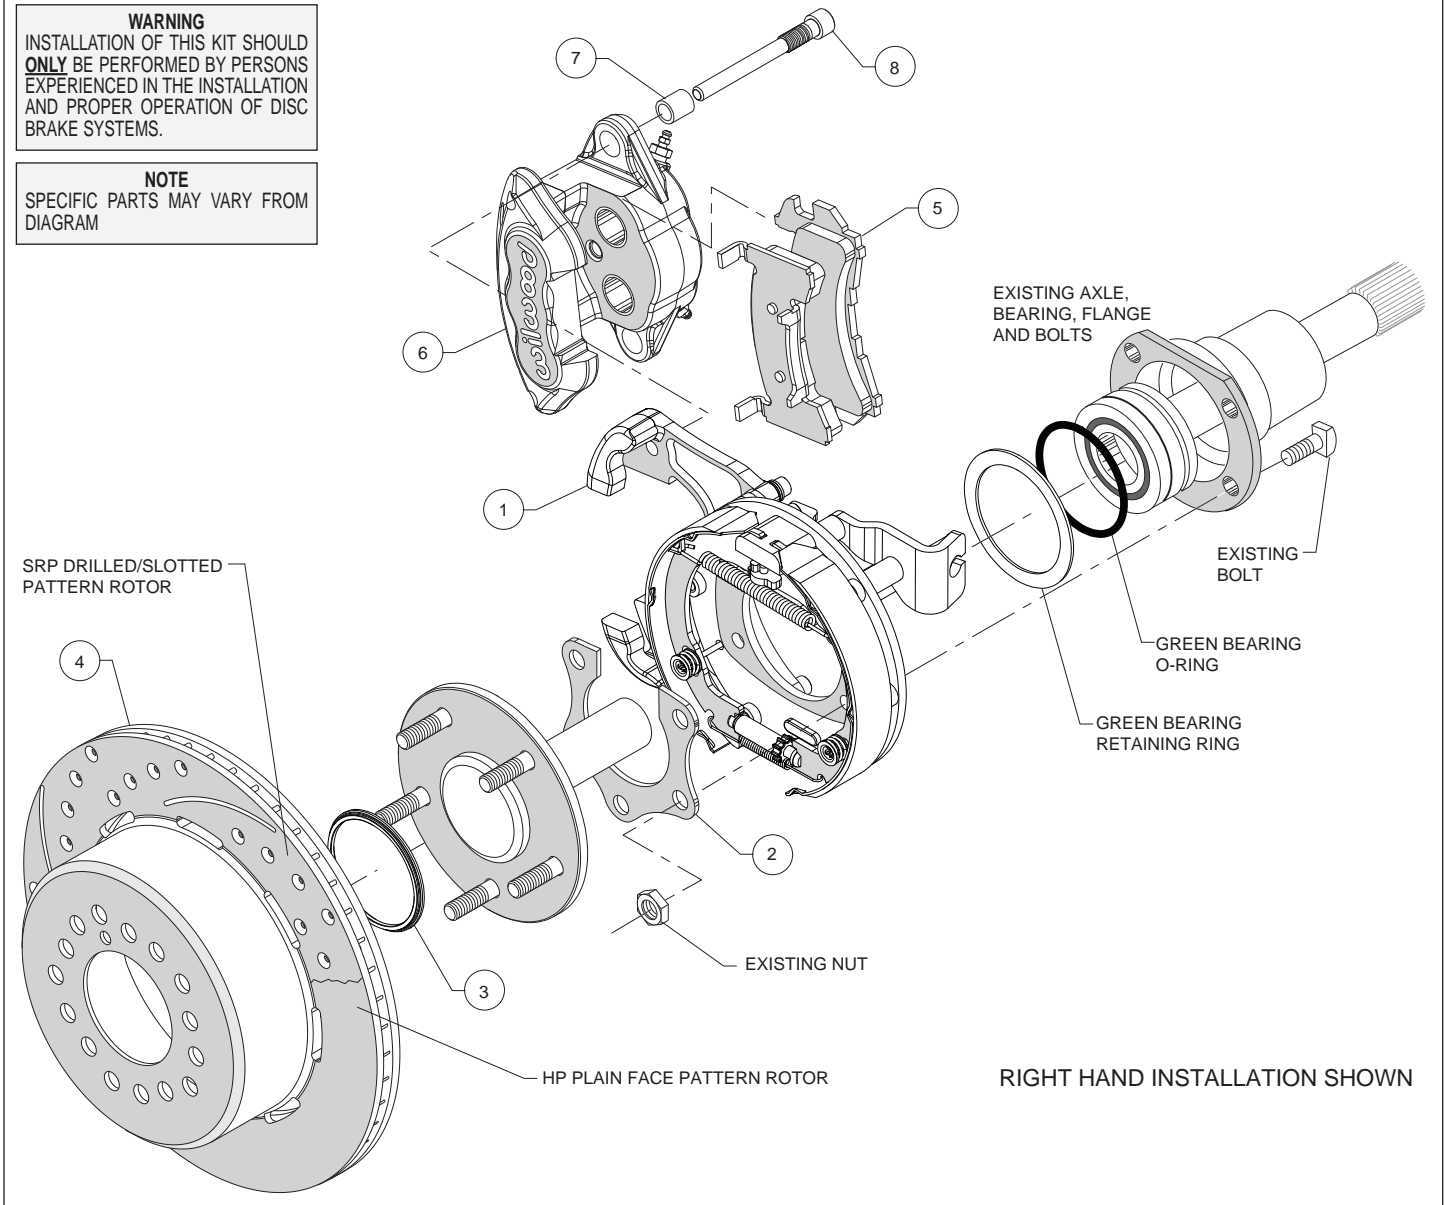

Figure 3. Typical Installation Configuration
**Assembly Instructions** (numbers in parenthesis refer to the parts list, and Figure 3 on the preceding pages): **CAUTION:** All mounting bolts must fully engage threaded holes.
• Temporarily remove the retaining ring and o-ring from the bearing. Use care so as not to damage those components. Orient the bracket assembly (1) as shown in Figure 3 and Photo 1 and slide it onto the axle and past the bearing. Reinstall the retaining ring and o-ring onto the bearing, again using care. Insert the axle and bracket into the axle housing. Ensure that the bracket assembly backing plate fits flush against the axle housing flange. **NOTE:** The bearing retaining ring should be sandwiched between the axle housing flange and the new bracket assembly.
• Install the bearing retainer (2) with the opening pointing upward and the bearing relief step facing inward (toward the bearing), as shown in Figures 3 and 6, and Photo 2. Secure retainer and bracket assembly to the axle housing flange using the Original Equipment Manufacturer (OEM) bolts and nuts, Figure 3. Apply red *Loctite*® 271 to the OEM bolt threads and torque to OEM specifications.
• Slide the rotor registration adapter (3) onto the axle register on the axle flange with the smaller O.D. facing toward the rotor/hat (4), Photo 3. Align the correct hole pattern in the rotor/hat with the stud pattern on the axle flange and slide into place, Figure 3 and Photo 4. **NOTE:** The rotor/hat must fit flush against the axle flange or excessive rotor run out may result. Install three lug nuts (finger tight) to keep the rotor/hat assembly in place while continuing with the installation. **NOTE:** Some OEM and after market axles come with stud sizes larger than 0.50" diameter. Verify stud size and have a qualified machine shop drill the bolt circle of the hat/rotor to the correct stud size, if necessary.
• Install the disc brake pads (5) into the caliper (6) with the friction material facing the rotor, as shown in Figure 3 and Photo 5.
• Install sleeves (7) onto slide pin bolts (8). Apply white lithium grease (available from your local auto parts store) to the slide pins/sleeves, as shown in Photo 6. **Do not apply to threads.** Mount the caliper (6) onto the mounting bracket (1) using slide pin bolts, as shown in Figure 3. Torque to 35 ft-lbs.